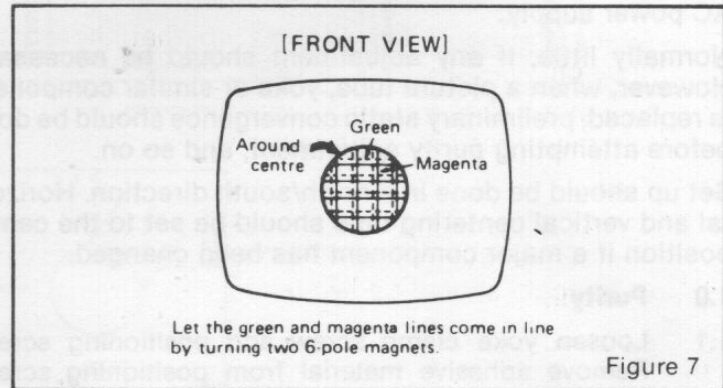

Figure 7
2.6 Turn on green input to obtain magenta (red/blue) and green crosshatch lines. Rotate and spread tabs of the 6-pole (rear) pair of magnets to minimize separation of the magenta and green lines (figure 7). Vary angle between the two tabs and further rotate as a unit to finalize.